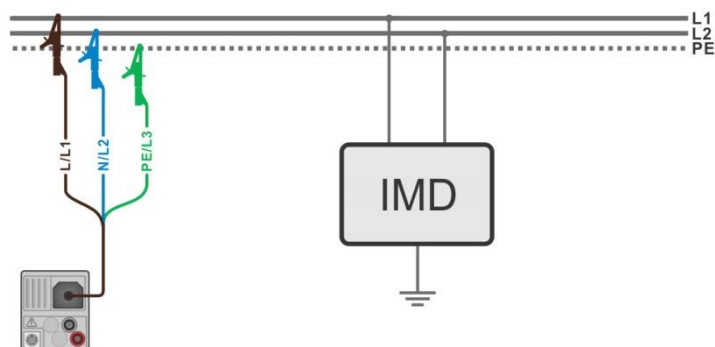
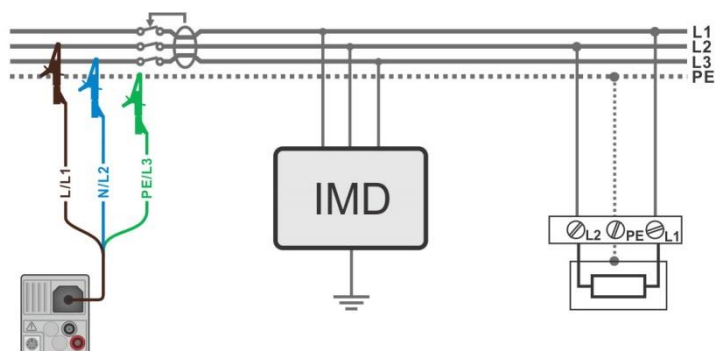

Figure 7.89: Measurement of highest First fault leakage current with 3-wire test lead
Figure 7.90: Measurement of First fault leakage current for RCD protected circuit with 3-wire test lead
- › Connect test leads to the object under test, see **Figure 7.89** and **Figure 7.90**.